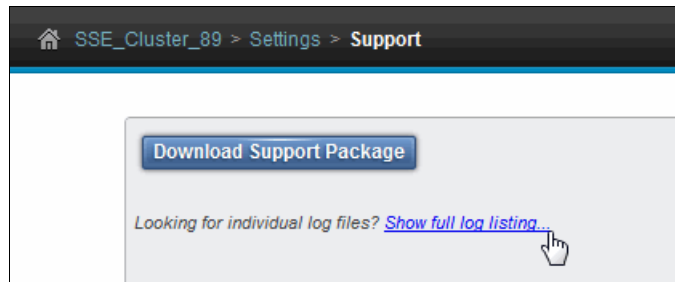

Figure 7-10 Accessing the “`dpa_heat`” file in the GUI
1. Click **Settings** → **Support** to open the Support page, as shown in Figure 7-10. If the page does not display a list of individual log files, click **Show full log listing**.